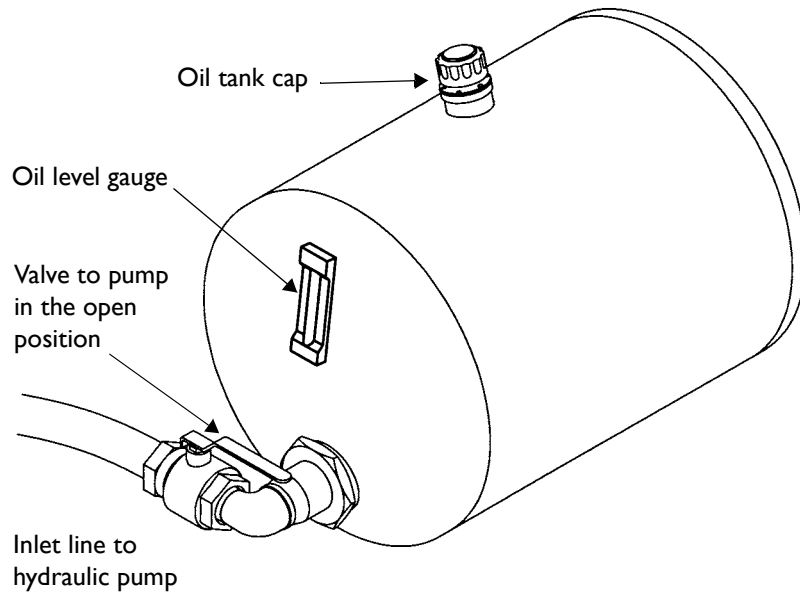

Figure 29
2. Using the appropriate oil for the season (see *Table 2, Recommended Hydraulic Oil* on page 58), fill the tank until the oil reaches the top of the oil gauge on the side of the tank (see *Figure 29*, below)
4. Check that the valve on the inlet line to the pump is open completely (see *Figure 29*, below).
CAUTION. Keep the oil level above the hydraulic inlet line that leads to the pump (see *Figure 29*, above). The pump will be seriously damaged if oil does not flow into it. The same oil must be in the oil tank and boom cylinders.